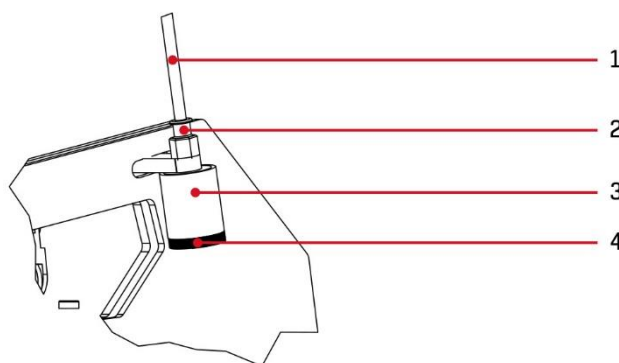

Fig. 33. Constructing of the cleaning tool.
5. Place the filament in the cleaning tool (see fig. 33). Follow the instruction below:
- remove the Bowden (tube) from the cleaner by pressing and holding the clamping ring of pneumatic connector (2) and pull the tube out (1),
- unscrew the cleaner's nut (4) and remove the sponge inlay,
- pass the filament through the hole of the cleaner's nut (4) and pierce the sponge located in the cleaning tool with the tip of filament,
- pass the filament through the sponge (3), insert the filament and the sponge to the cleaning tool and tighten all with the cleaner's nut (4),
- push the filament wire through a tube (Bowden) (1), straighten the end of it and insert it into the cleaner's pneumatic connector (2).